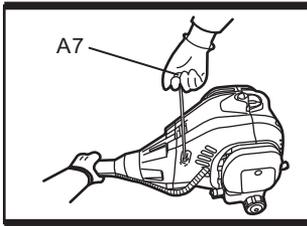

Fig. 13e
- e). Hold the product stable and pull the recoil starter handle (A7) firmly; repeat until the engine starts. (See Fig. 13e)